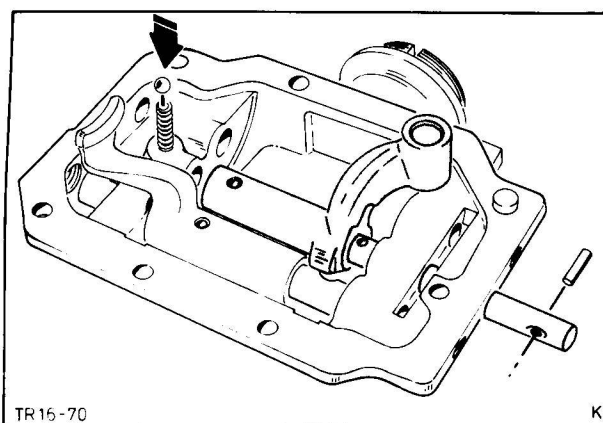

Fig. 121. Fit 3rd/4th gear selector rail and fork carrier
10. Fit 3rd/4th gear selector rail and fork carrier in the manner described in sub-operation 9. In addition the interlock pin also has to be inserted in the hole in 3rd/4th gear selector rail together with the interlock plunger for reverse and 3rd/4th gear selector rails, Fig. 121.